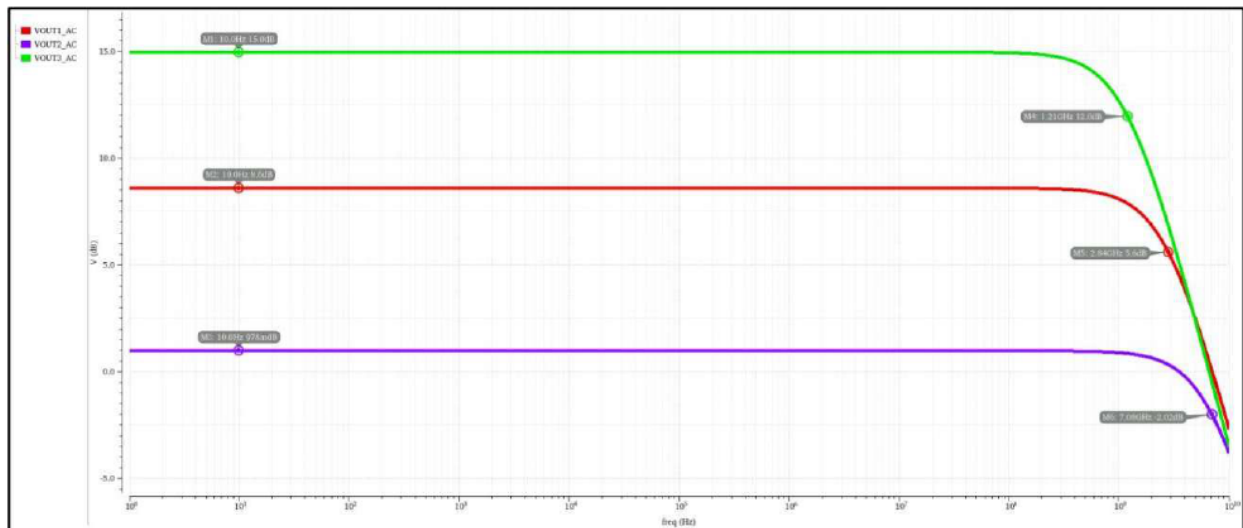

Figure 16. AC response
- Set up VIN voltage as shown in **Figure 15**, AC magnitude = 1.0V and AC phase = 0. **Draw frequency response with ac analysis, frequency varies from 1Hz to 10GHz as Figure 16.**